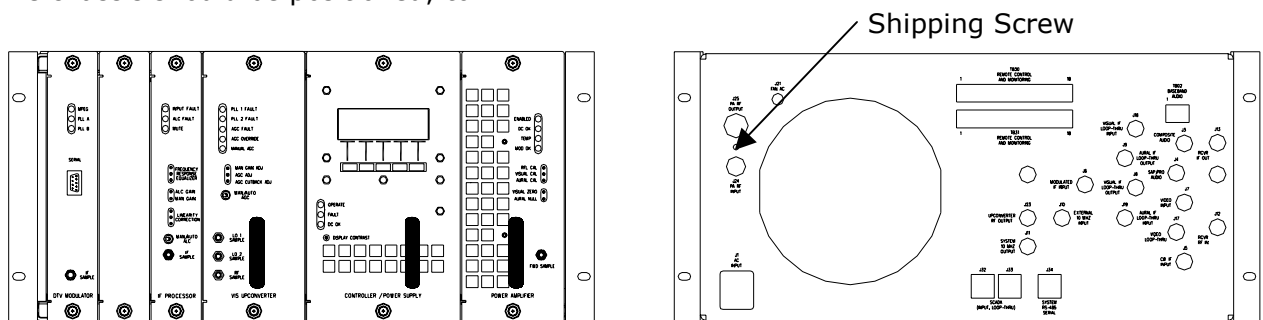

Figure 3-2. Front and Rear View Exciter/Driver
**NOTE:** To remove the driver/power amplifier module, mounted in the exciter/driver assembly, the input and output cables must be removed from the rear of the module and also a 6/32" x 1/2" Philips screw, mounted between the two connectors, needs to be removed before the module will pull out. After removal of the screw, which is used to hold the module in place during shipping, it does not need to be replaced. (See Figure 3-2)